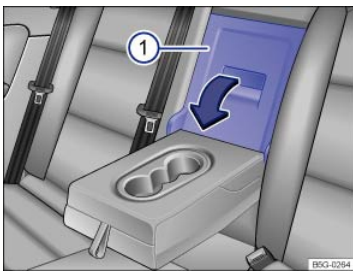

Fig. 101 In the rear seat backrest: Opening the luggage compartment pass-through.
- Pull the release lever in the direction of the arrow ⇒ Fig. 101① and fold the pass-through cover all the way forward.
- Pull the release lever on the pass-through cover in the direction of the arrow ⇒ Fig. 101①.